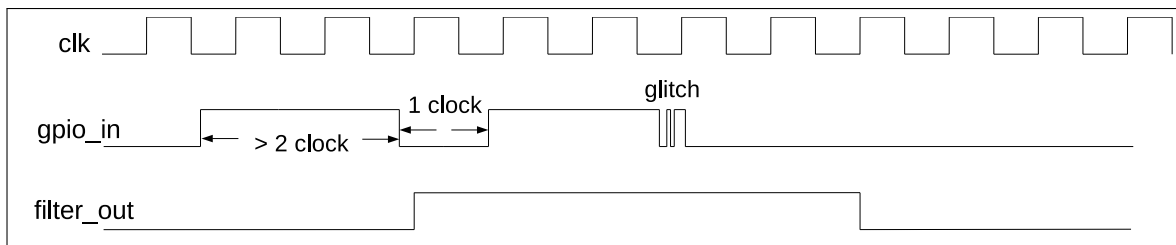

Figure 6-4. Filter Timing of GPIO Input Signals
2. Optionally enable the filter for pin input signals by setting the register `IO_MUX_FILTER_EN`. Only the signals with a valid width of more than two APB clock cycles can be sampled, see Figure 6-4.